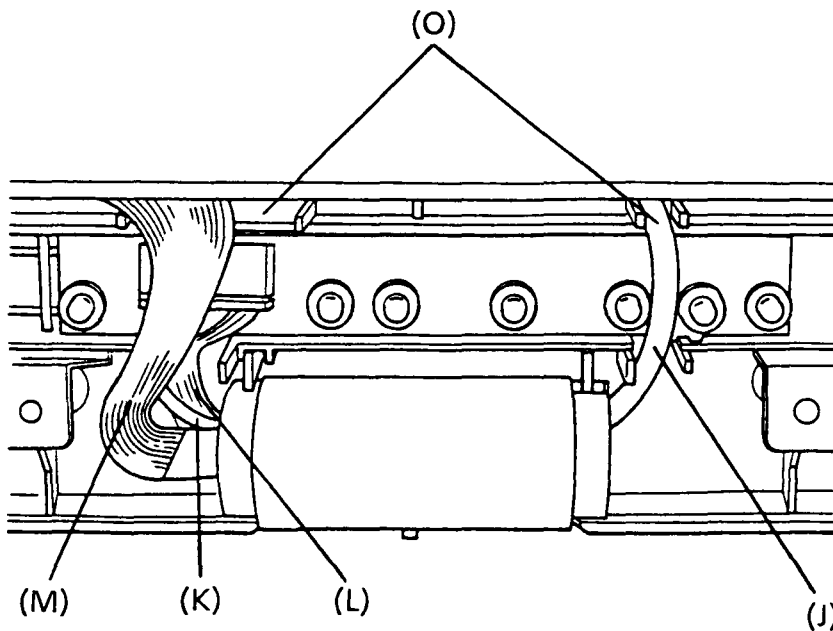

FIGURE 4-7 Cable Position
- (1) Put plasma display power cable (J) to your right, and plasma ground cable (K), indicator cable (L) and plasma display signal cable (M) to your left as shown in the figure 4-7.
- (3) Put the cable guide in the top cover, then place each cable in the two ditches (O) of the PDP cover assembly as shown in the figure 4-7.